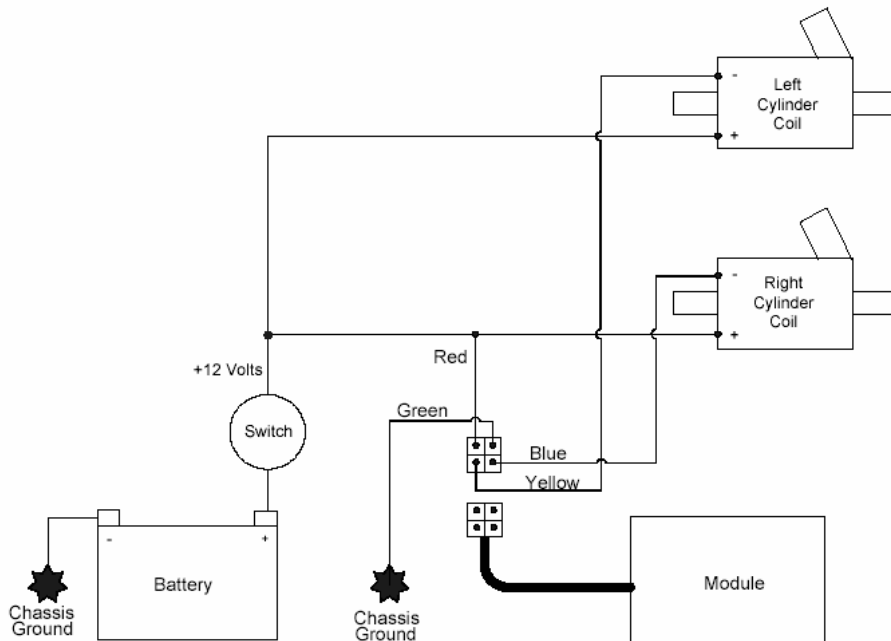

Figure 1
25. Figure 1 shows how the power wiring should look when you're done. The pickup plate and its wires are left out of the diagram for clarity – only the wires that the installer is responsible for connecting are shown. If you are unfamiliar with wiring diagrams, wires that have a "dot" at their intersection are electrically connected to one another, while a "jog" signifies that they are not connected.